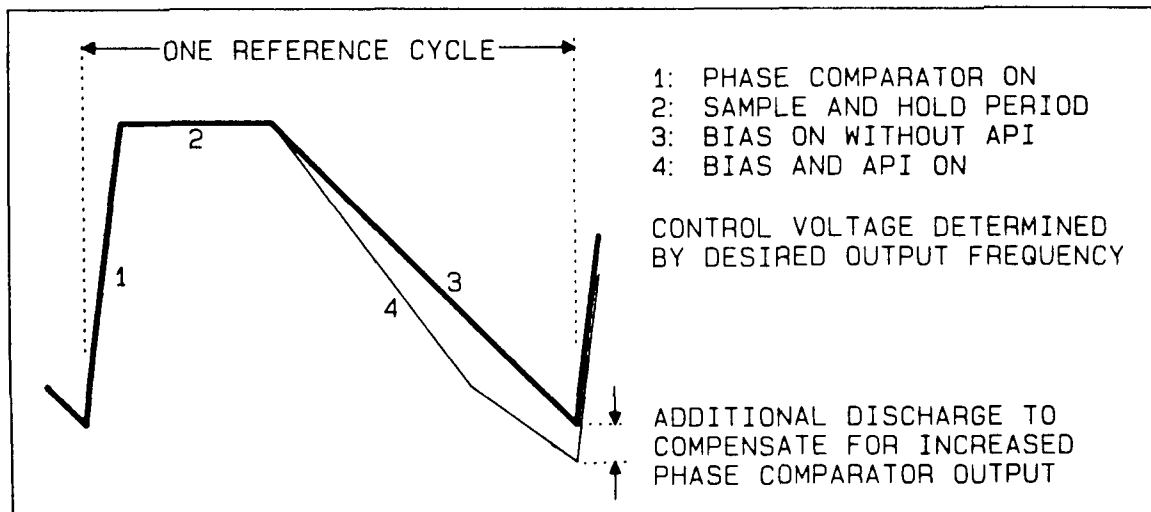

Figure 6-38. Integrator Output with API Applied
When the VCO operates at 40.04 MHz, N is 400 and the divided VCO signal to the phase comparator is 100.1 kHz. When compared to the 100 kHz signal from the reference (A 100kHz), a phase difference of increasing magnitude results. Consequently, the phase comparator current source on A33 continues to increase the charge current to the integrator. To compensate for this increasing charge, the discharge current from the bias current source also increases. The desired net result is a constant integrator output voltage. The discharge current from the bias source is adjusted with the analog phase interpolation (API) current sources (on A33), which are controlled by the fractional-N integrated circuit (IC) on A34. This API circuitry is a series of five different-sized current sources. Figure 6-38 illustrates the effect of applying API to the bias current control source.